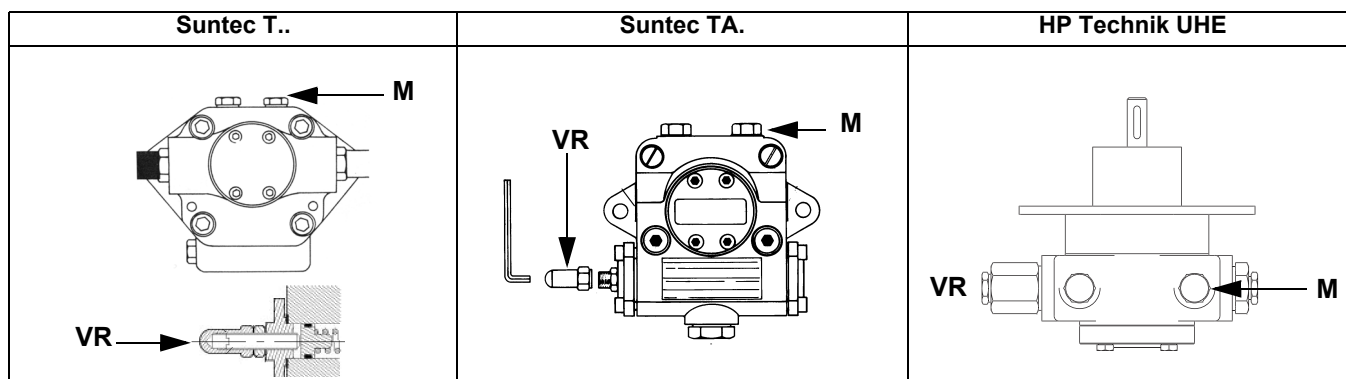

Fig. 23
- 3 bleed the air from the **M** pressure gauge port (Fig. 23) by loosening the cap without removing it, then release the contactor.
- 5 Only if necessary, adjust the supply pressure as follows (see related paragraph); insert a pressure gauge into the port shown on Fig. 24 and act on the pump adjusting screw **VR** (see Fig. 23) as to get the nozzle pressure at 20bar (Monarch or Fluidics nozzles - see page 42-38).